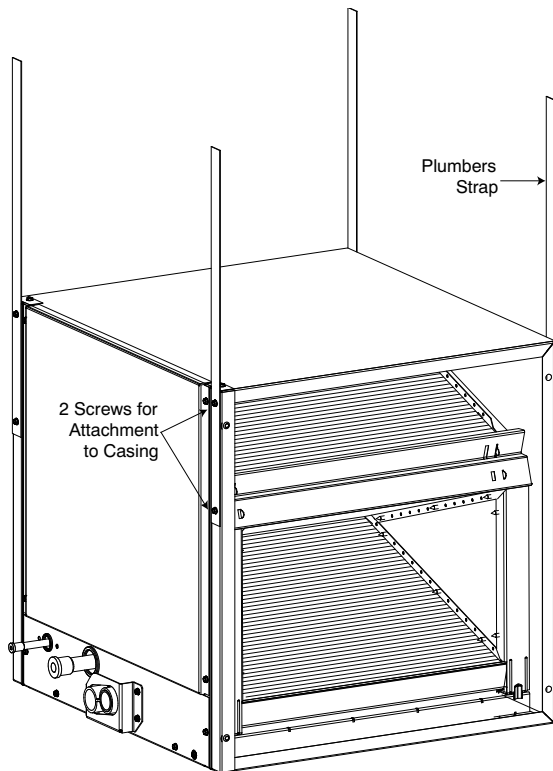

Fig. 7 – Suspension with Plumbers Strap
2. Attach metal plumbers strap to four corners of coil casing (Fig. 7).